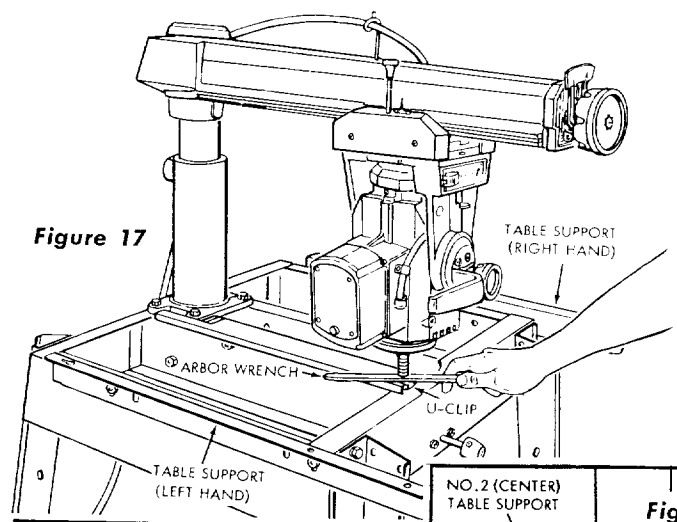
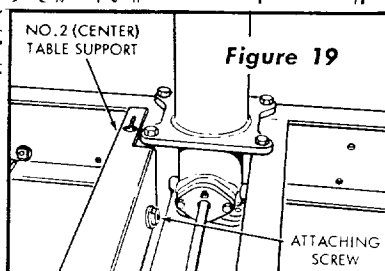

Figure 17
Figure 19
- d. The forward end of the No. 2 (center) table support is anchored to the saw base with a slot and, consequently is not adjustable. For this reason, this location is the starting point for adjusting all of the table supports. (See figure 17.)
- e. Move the carriage and swing the radial arm until the end of motor shaft is positioned directly over the U-clip, located on the outer end of table support No. 2. Place the arbor wrench on the U-clip, then, with the elevation crank, lower the carriage until the end of the shaft just touches the arbor wrench. (See figure 17.)
- f. Carefully adjust the motor up or down with the elevation crank until the arbor wrench (being used as a "Feeler") slides back and forth with only slight resistance. (See figure 17.)
- h. Recheck the front position (figure 17), since a change at the rear could slightly affect the front setting. Check back and forth until both front and rear positions are exactly the same height. Tighten the attaching screw and nut (figure 19).